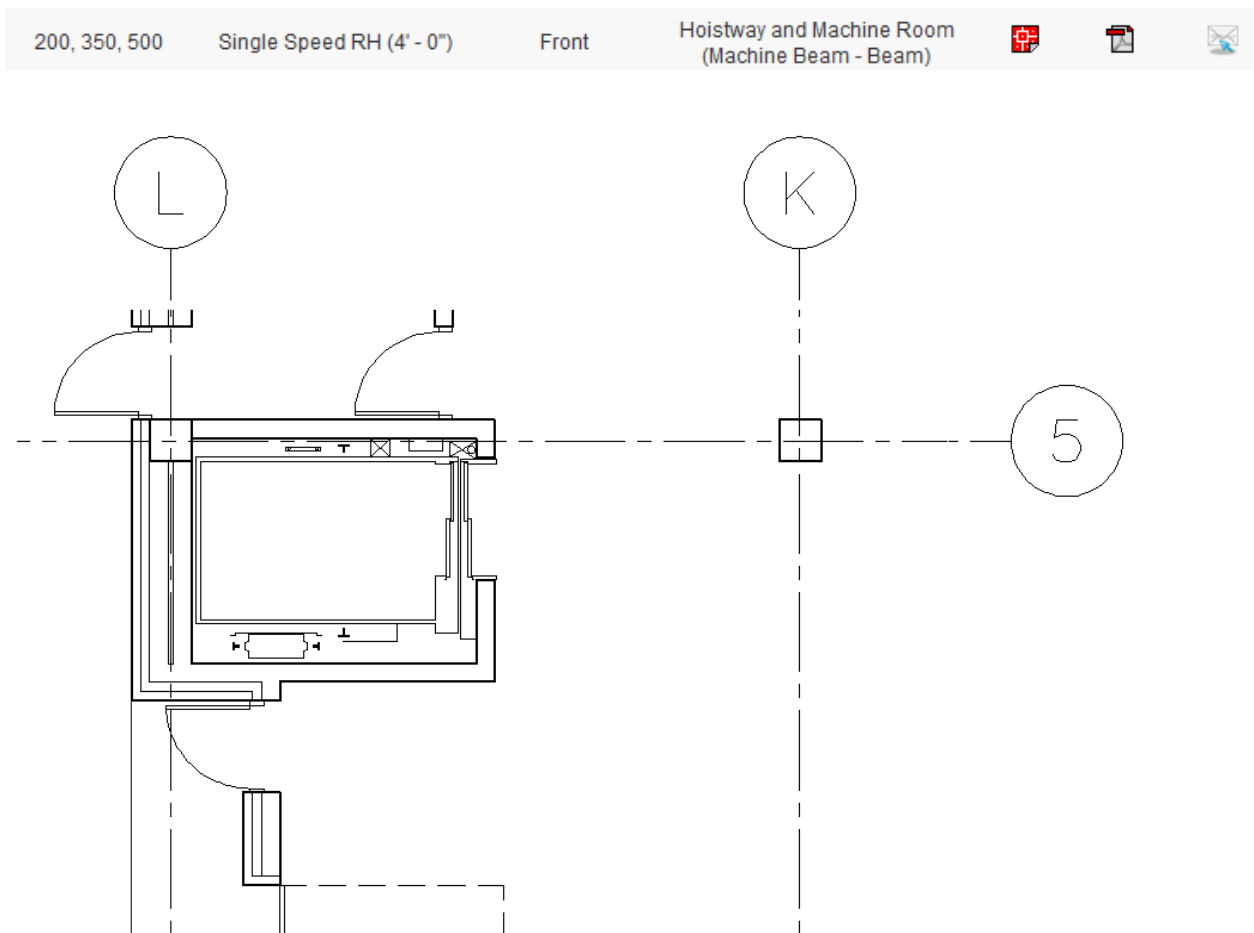

FIGURE 4-3.12 Service elevator added to plan
30. Place the service elevator per **Figure 4-3.12**, *plus*: